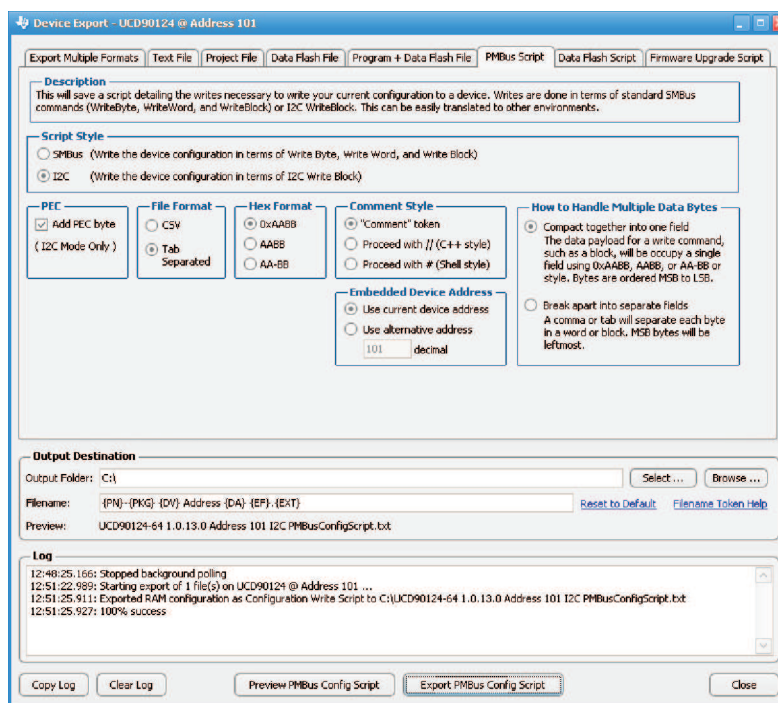

Figure 29. Fusion GUI PMBus Configuration Script Export Tool
2. The *Fusion GUI* (Figure 29) can create a PMBus or I²C command script file that can be used by the I²C master to configure the device.